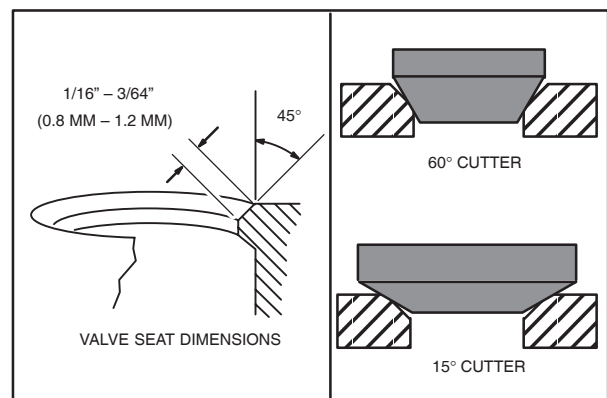
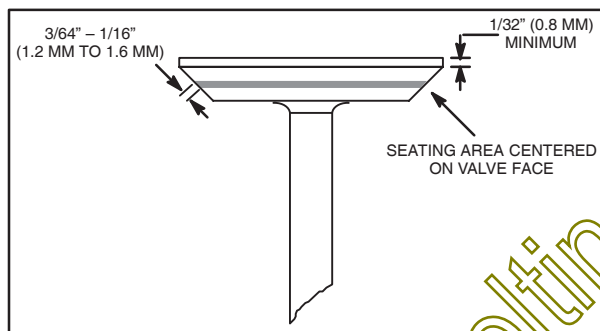

Fig. 14
Fig. 16
If valve seat is wider than 3/64" (1.2 mm), Fig. 14, use a narrowing cutter to ensure that contact area of valve seat is centered on face of valve, Fig. 16.
Use a 60° cutter, Fig. 14, top inset, to narrow seat from bottom. Use a 15° cutter, Fig. 14, bottom inset, to narrow seat from top.
2. Valve faces can be resurfaced to 45°. See Fig. 16 for dimensions for valves.